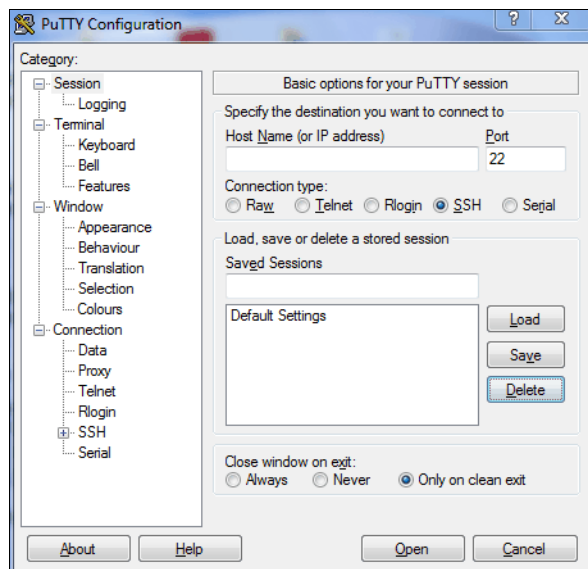

Figure A-9 PuTTY Configuration
1. Start PuTTY (Figure A-9 on page 580).
5. From the Category pane on the left side of the PuTTY Configuration window, click **Session** to return to the Session view (Figure A-9 on page 580).